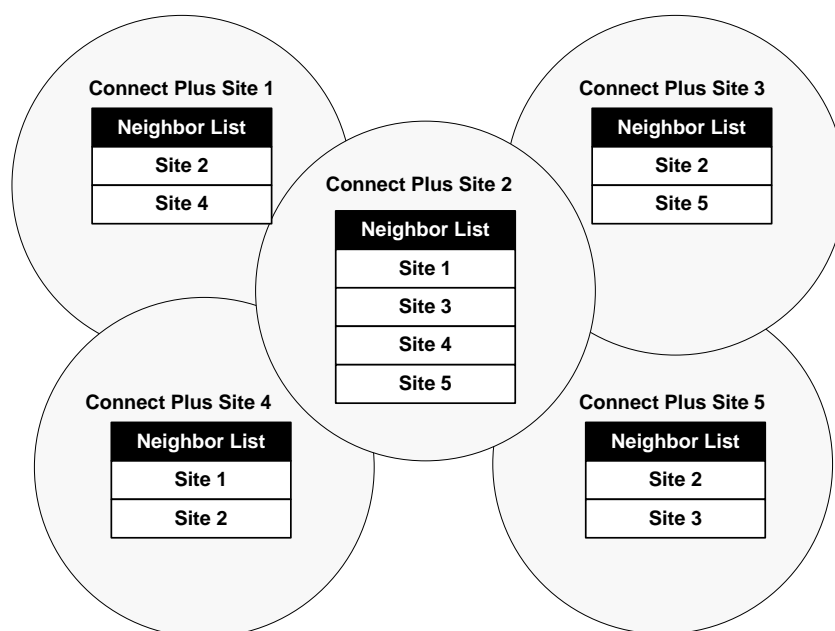

Figure 2-5 Connect Plus Neighbor List Example
- **Neighbor List Collection:** When a Connect Plus SU is registered to a site, it collects the “Neighbor List” that is transmitted by the site’s control channel. The Neighbor List consists of up to 5 site numbers for sites that are RF-adjacent to the site transmitting the Neighbor List. This Neighbor List is configured by using the XRC 90000 Network Manager Software. When a Connect Plus SU loses signal from a site, it first searches the “Preferred” or “Last Registered” site (as determined through Connect Plus CPS programming). If an acceptable signal is not found, the SU proceeds to search the Control Channels of the most recently collected Neighbor List. In doing so, the sites are searched in the order that they configured via the Network Manager. The Connect Plus SU can store Neighbor Lists collected from up to 10 different Connect Plus sites. The lists are searched in “last collected, first searched order”. If the SU should ever collect Neighbor Lists from more than 10 different sites, the oldest Neighbor List will “fall out” to make room for the most-recently collected Neighbor List. An example of a Neighbor List configuration is shown in Figure 2-5.